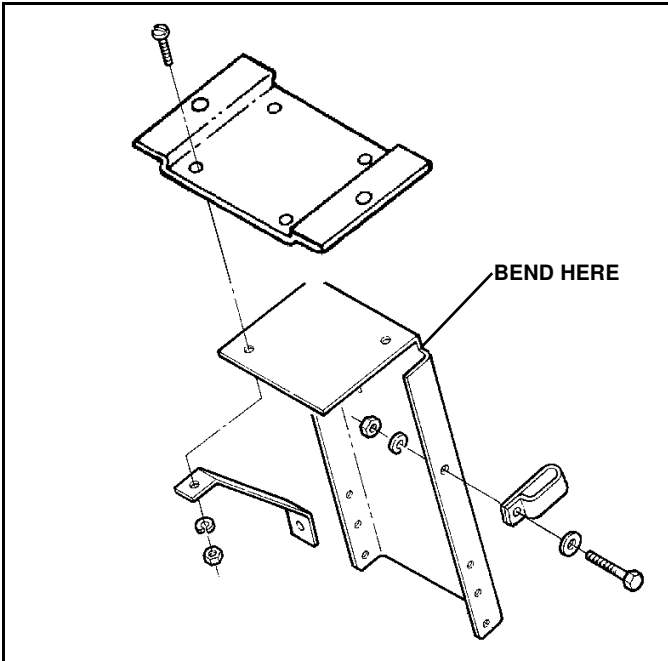

Figure 1-1
NOTE: The top of the Stand Plate can be bent to accommodate operator preference. (See Figure 1-1)
1. Attach the Adapter Plate to the top of the Stand with (2) #10-24 x 1/2" Round Head Machine Screws. (See Figure 1-1)
IMPORTANT: While installing the Adapter Plate attach the Brace Strap to the Stand Plate with #10-24 x 1/2" Round Head Machine Screws, Lock Washers and Nuts. (See Figure 1-1)